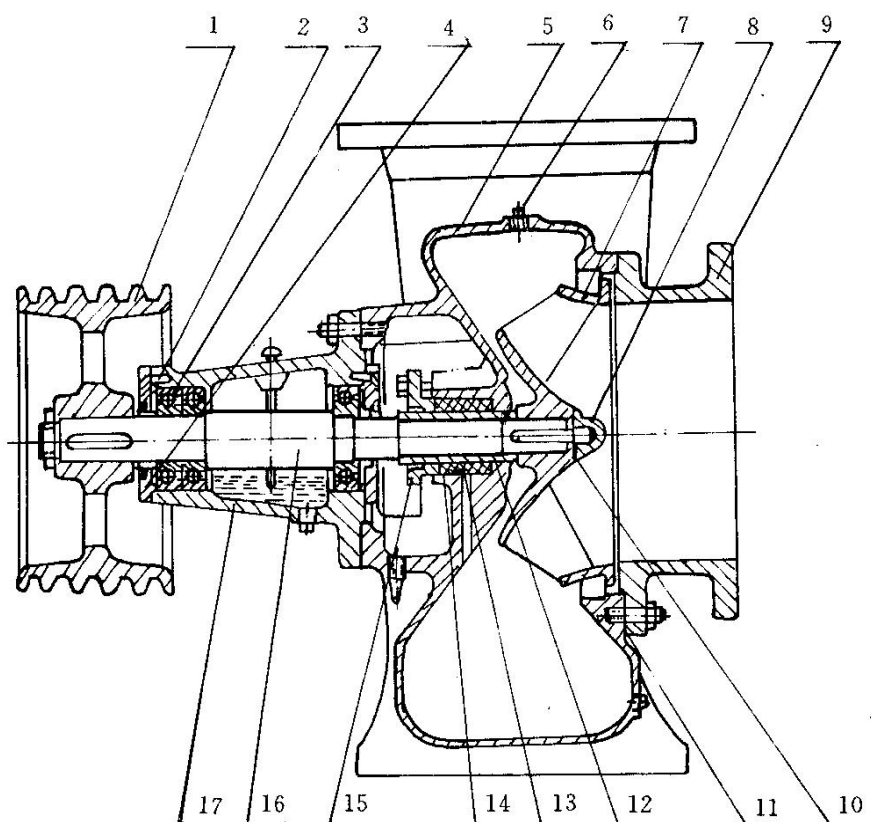
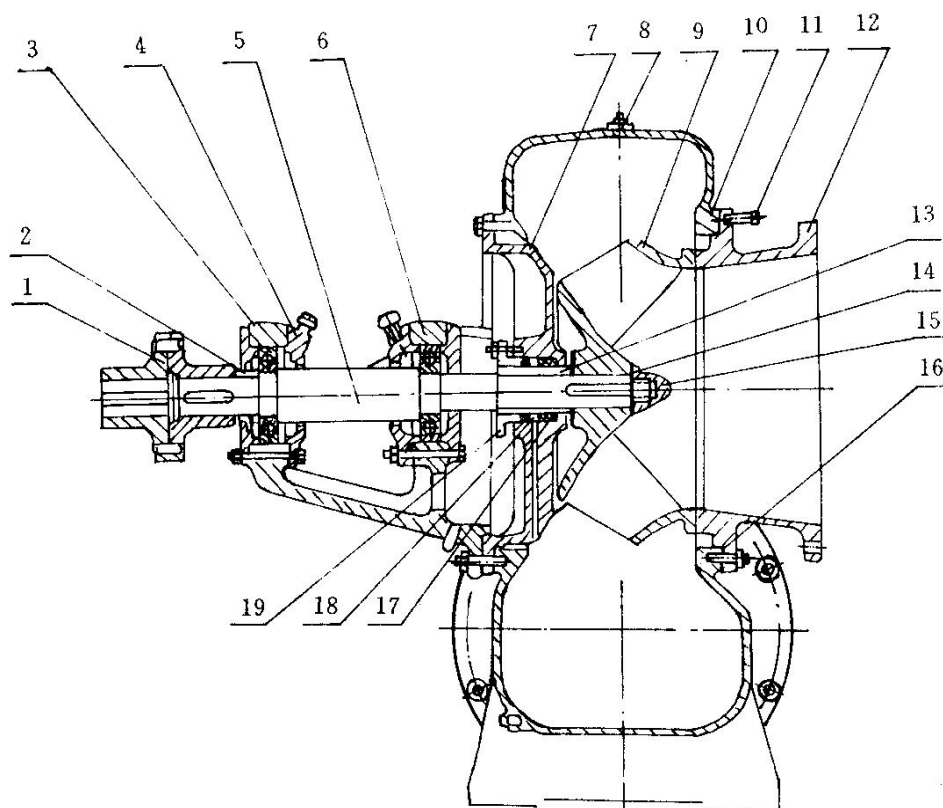

Fig 1. Upward outlet type
Fig 2. Horizontal outlet type
7. The outlet of 4HBC—12HBC pumps is upward, as in figure 1; and that of 16HBC—26HBC pumps is horizontal as in figure 2. The outlet of 14HBC pump has two types, either upward or horizontal.